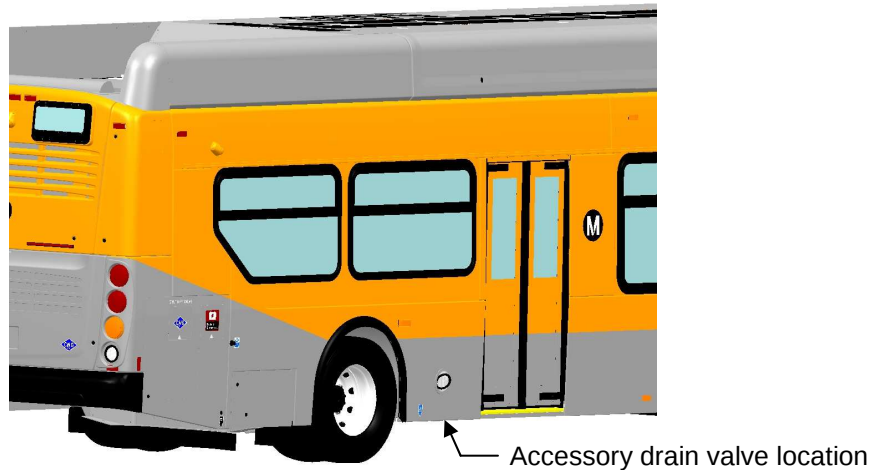

Figure 1: Accessory Drain Valve Location
3. Open the accessory tank drain valve located behind the bottom of the frame structure just behind the rear exit door, See Figure 1.